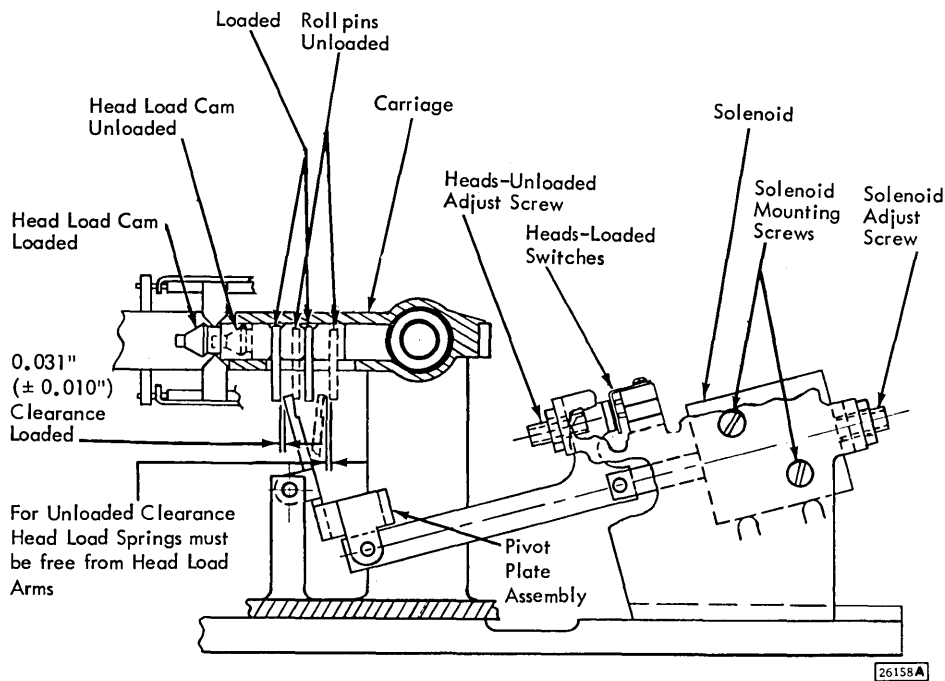

Figure 4-6. Head Load Assembly Adjustment
4.8.2 Head Load Assembly Adjustment (Figure 4-6)*
2. Unsolder leads at heads loaded switch (Figure 4-6) and note terminal from which each lead is removed.